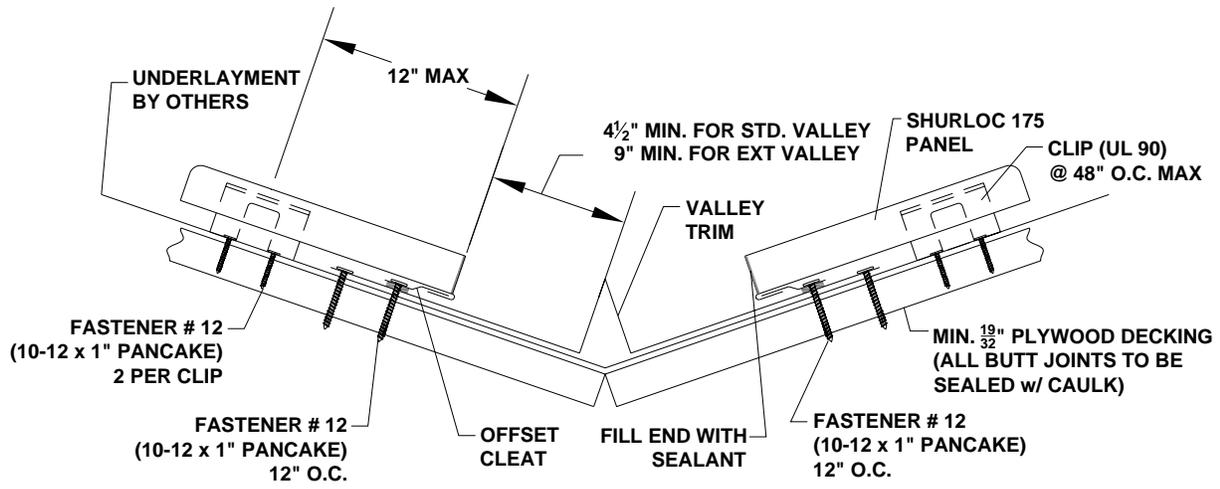

Figure 3: Valley Detail (Valley With Offset Cleat)
**Valley Trim:** The valley trim shall be installed as shown in Figures 3 and 4.